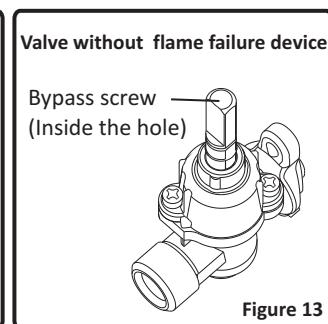

Figure 13
The flame length in the minimum position is adjusted with a flat screw located on the valve. For valves with flame failure device, the screw is located on the side of the valve spindle(Figure 11-12). For valves without flame failure device, the screw is located inside the valve spindle(Figure 13). For easier reduced flame adjustment, it is advised to remove the control panel (and microswitch, if present) during adjustment.
- Lift up the pan supports, caps and crowns of hob burners(Figure 13).